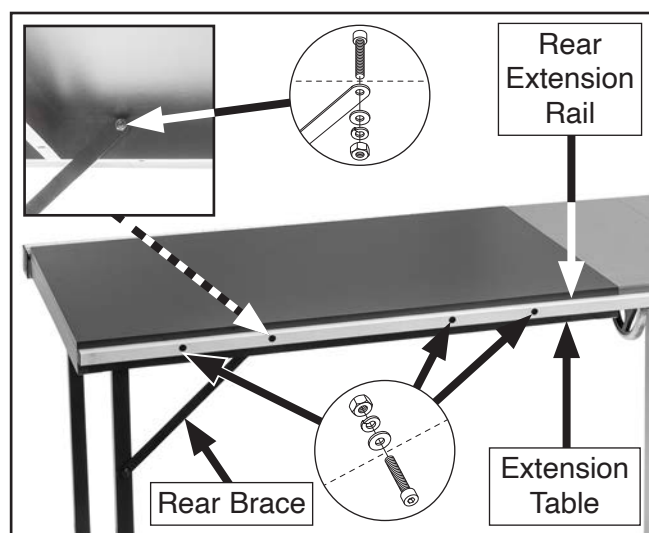

Figure 30. Rear extension rail attached to extension table.
16. Mount extension table to rear extension rail with (3) M8-1.25 x 25 cap screws, 8mm flat washers, 8mm lock washers, and M8-1.25 hex nuts, as shown in **Figure 30**. Hand-tighten fasteners for now.
17. Align open end of rear brace with remaining open cap screw, then secure with (1) 8mm flat washer, 8mm lock washer, and M8-1.25 hex nut, as shown in **Figure 30**. Hand-tighten fasteners for now.